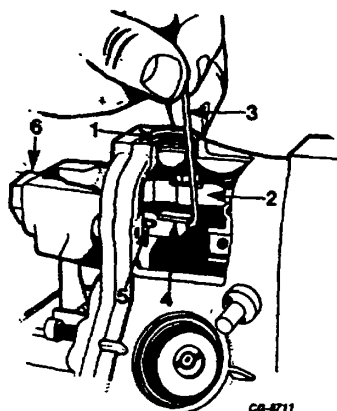

Figure 14. Engaging Stop Shackle to Rocker Arm Pin (Governor Housing Cut Away for Illustration)
15. Using a hook made from light wire, reach down through adjustment access hole and lift stop shackle up to engage slot in stop shackle with rocker arm pin. (See Figure 14). In some cases, it may be easier to lift stop shackle with hook engaged at rear of mating flange or in slot of stop shackle.